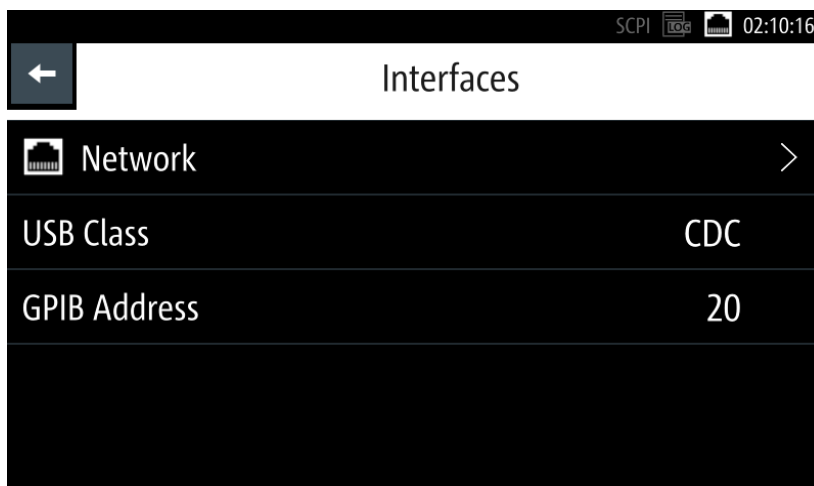

Figure 6-28: Interfaces dialog
1. Select "Network" from the Figure 6-28.
1. Select "GPIB Address" from the Figure 6-28.